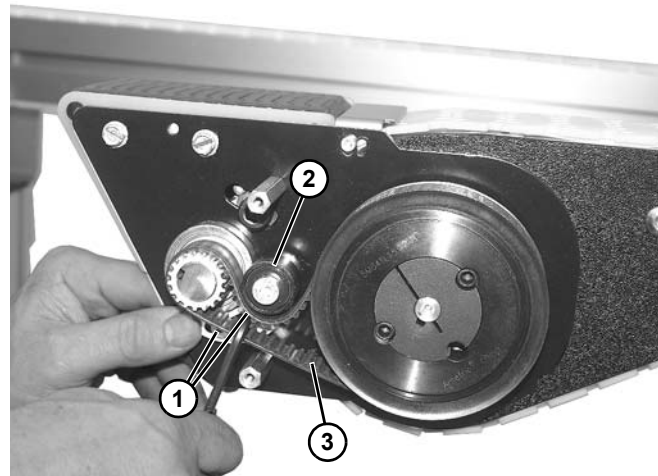

Figure 157
2. Loosen two socket head screws (**Figure 157, item 1**) holding tensioning pulley (**Figure 157, item 2**) onto timing belt (**Figure 157, item 3**).
3. Remove timing belt (**Figure 157, item 3**) from assembly.